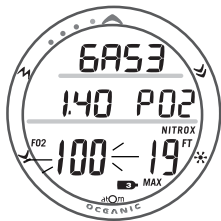

Fig. 45 - SET FO2 GAS3
- Depressing and holding the S button while the FO2 Set Point is flashing will scroll the Set Point from AIR to 21 through 100% (Fig. 45) in 1% increments, at a rate of 8 per second.